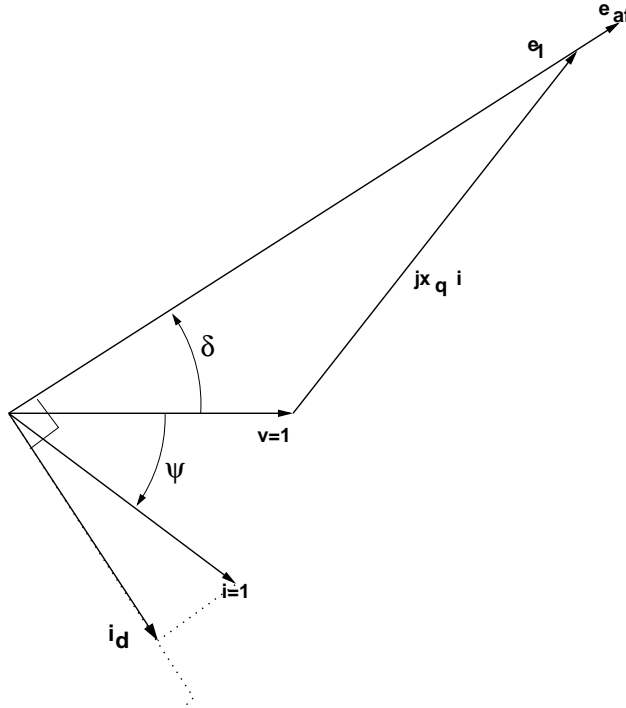

Figure 1: Phasor Diagram for Problem 1
**Problem 1:** 1. With the machine operating at rated terminal voltage and current ( $|v_a| = 1.0$ ,  $|i_a| = 1.0$ ) at power factor of 0.8, real power  $P=200$  MW and reactive power  $Q=150$  MVA, the phasor diagram is as shown (very nearly to the correct scale) in Figure 1. Remember that we can find a point on the q-axis: